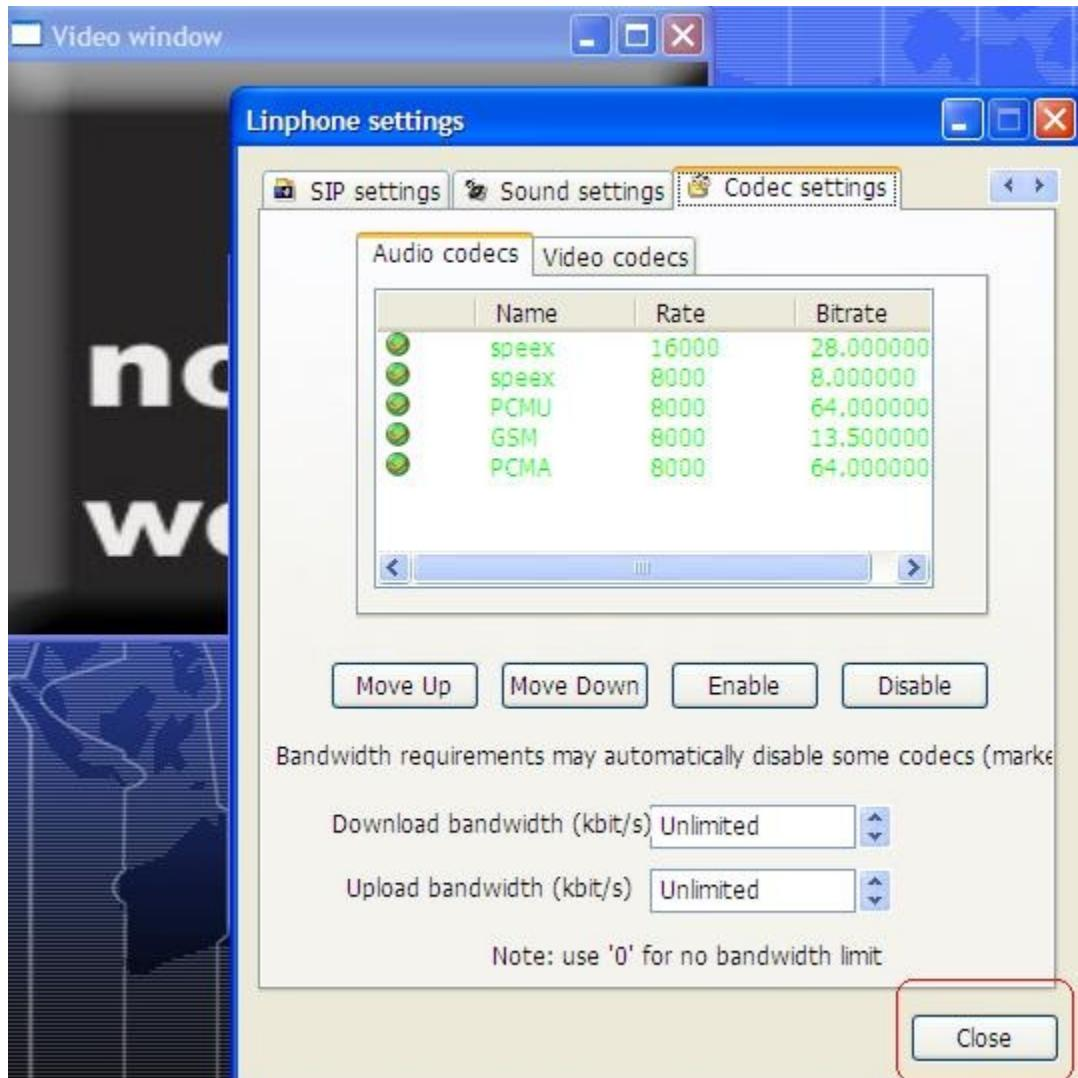
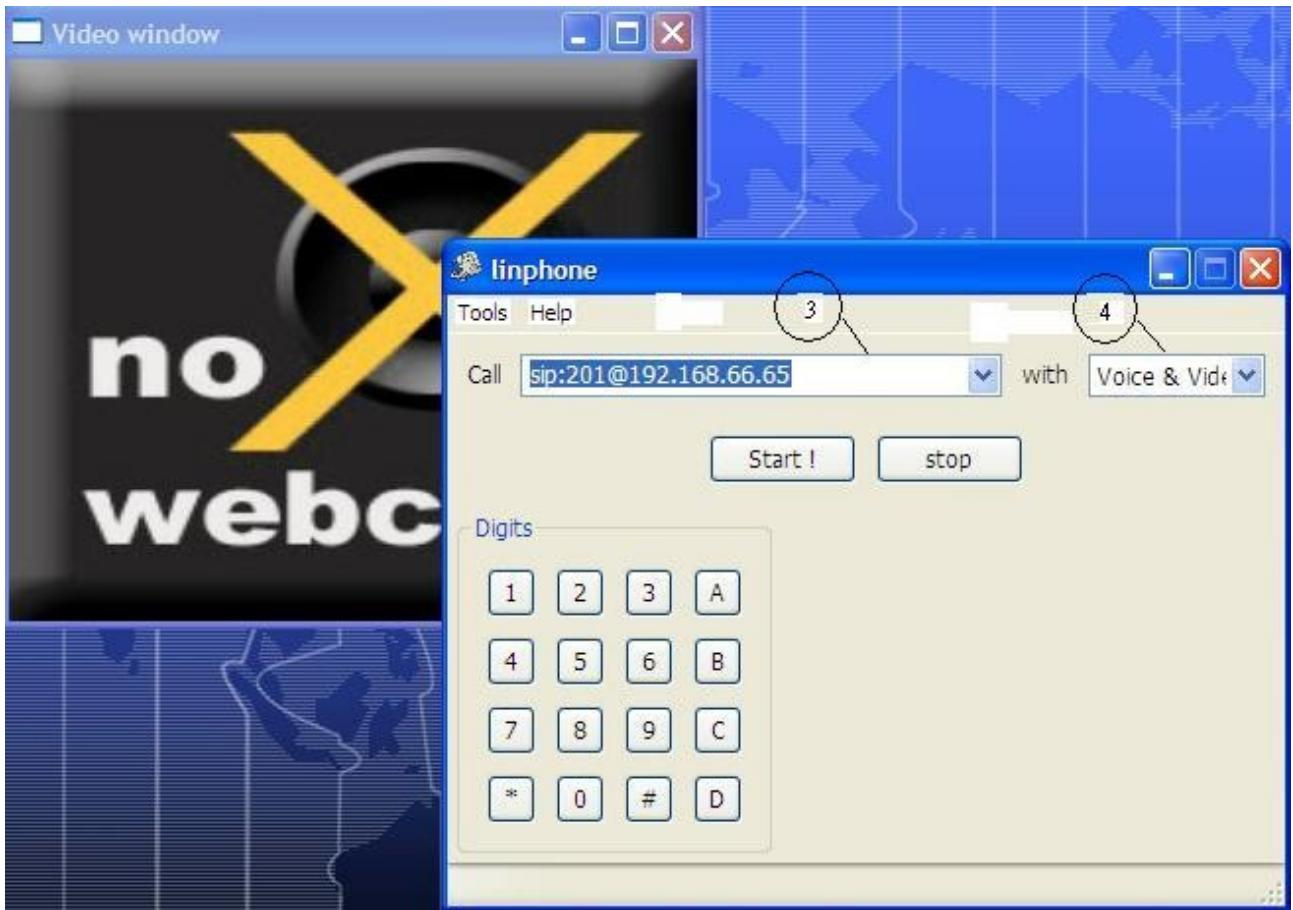

Figure 7-7
Figure 7-8
e. Finally, press “Close” button to finish the setting process. (circle in Figure 7-7).
For example, we want to make a call from softphone (SIP phone number : 202@192.168.66.65) to the device (SIP phone number : 201@192.168.66.65). As you have finished all steps in Chapter 7-1, the only thing you have to do here is enter the SIP phone number you want to call (text box 3 in Figure 7-7), choose "Voice & Video" in 4 (Figure 7-8) if you want a call with voice & video simultaneously, after that, press "Start!" button in the linphone panel. A ring tone should be heard on the SIP Cam side, after about 5 seconds and ring tone changed from "DU-----DU-----"(longer time gap between two "DU" sound) to "DU—DU—DU"(shorter time gap between two "DU" sound), press PIN code designated in the Phone / Incoming call, after that, phone should be connected, so image on the device side will appear, (through the camera lens) , you can talk with the man on the device side (if any), check the quality of the voice and the video. After test is done, you can press "stop" button in the linphone panel to end the phone.